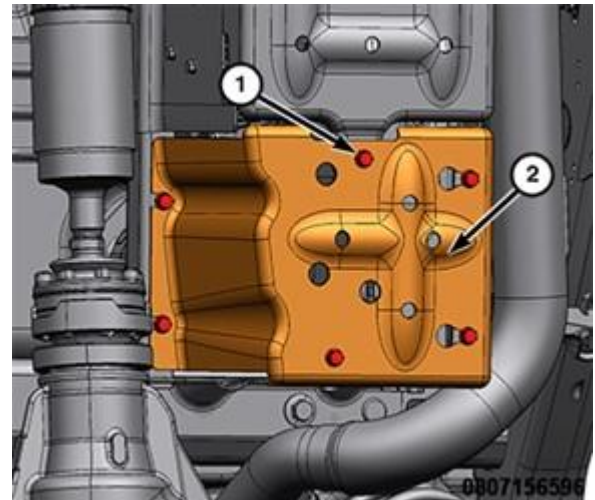

Figure 11 – Skid Plate
16. Remove the fasteners (1) and the skid plate (2) from the vehicle (Figure 11).